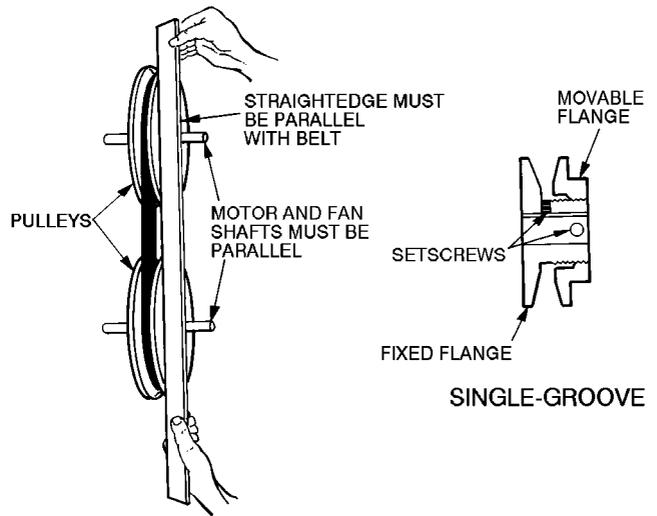

Fig. 19 — Indoor-Fan Pulley Adjustment
- Loosen movable pulley flange setscrew (see Fig. 19).